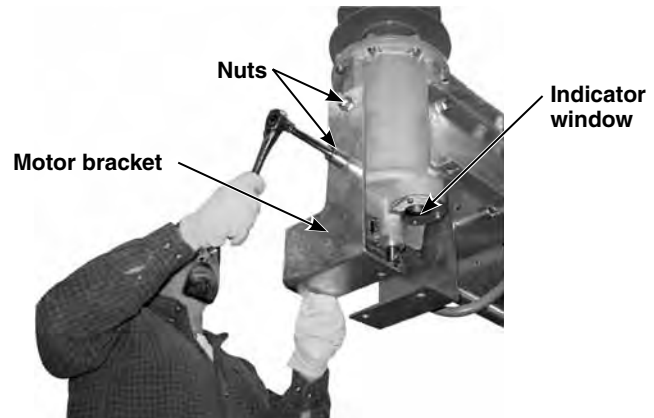

Figure 42. Place the second motor bracket on the opposite side if applicable.
b. Place the second motor bracket on the opposite side of the pole-unit. Attach both brackets to the pole-unit base using the  $\frac{5}{8}$ -11  $\times$  2 stainless-steel studs furnished. Screw each of the studs in until they bottom, approximately 8 or 9 turns. Both the upper and lower mounting bosses must be used. The motor bracket must be positioned as shown in Figure 42.